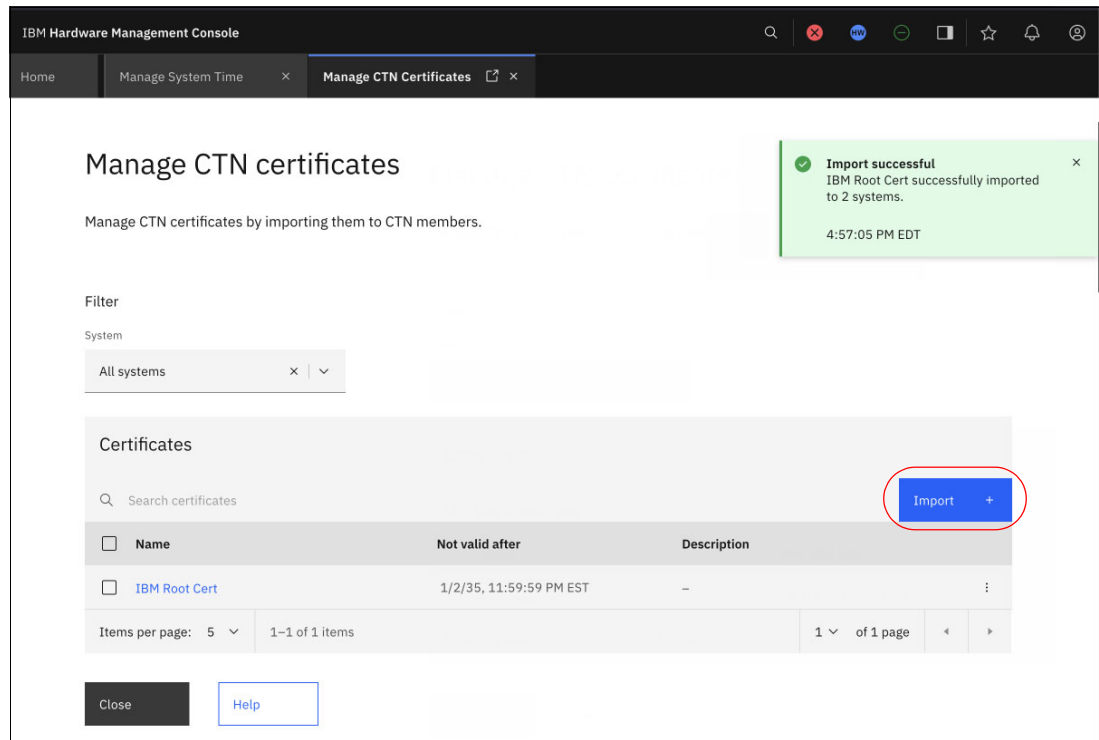

Figure 4-75 Certificate imported
9. Click **Next** to upload the certificate (Figure 4-75 on page 109).